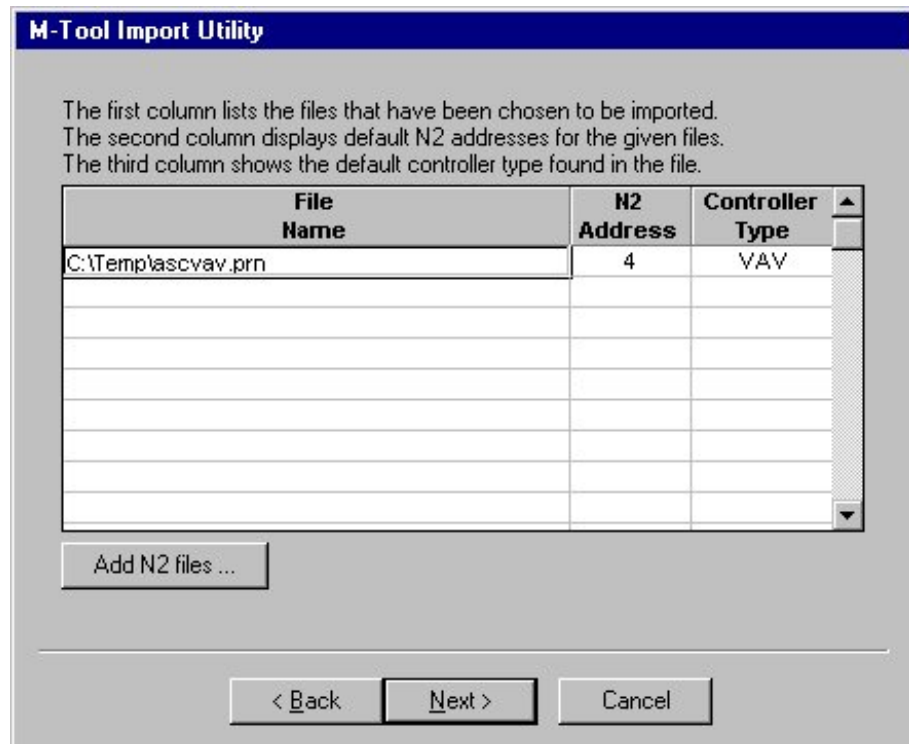

Figure 5-3: M-Tool Import Utility Dialog Box
3. Navigate to and select the N2 Controller file to import, and click OK. The M-Tool Import Utility dialog box appears showing the N2 Controller file you are importing (Figure 5-3).